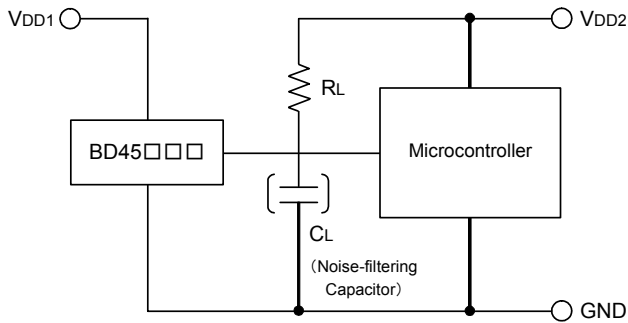

Fig.18 Open Collector Output Type
CASE1: the power supply of the microcontroller (VDD2) differs from the power supply of the reset detection (VDD1). Use the open drain output type (BD45 series) attached a load resistance (RL) between the output and VDD2. (As shown Figure 18)